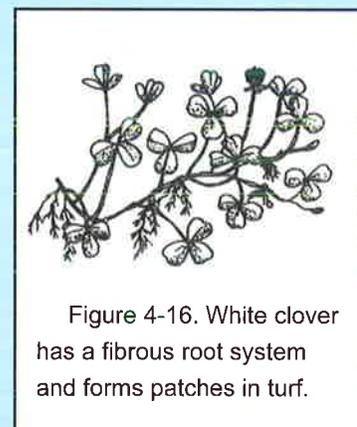

Figure 4-16. White clover has a fibrous root system and forms patches in turf.
**White clover** produces numerous seeds, but it can also spread by creeping stems that root at the nodes (Figure 4-16). The distinctive leaf has three round,  $\frac{1}{4}$ -inch leaflets that often have a faint, white, crescent mark. White clover flowers from May through September. Each flower resembles a tiny pea flower, but they are found in ball-shaped heads of 40 to 100 white or pink flowers. White clover occurs throughout the growing season, especially in moist, infertile soil.